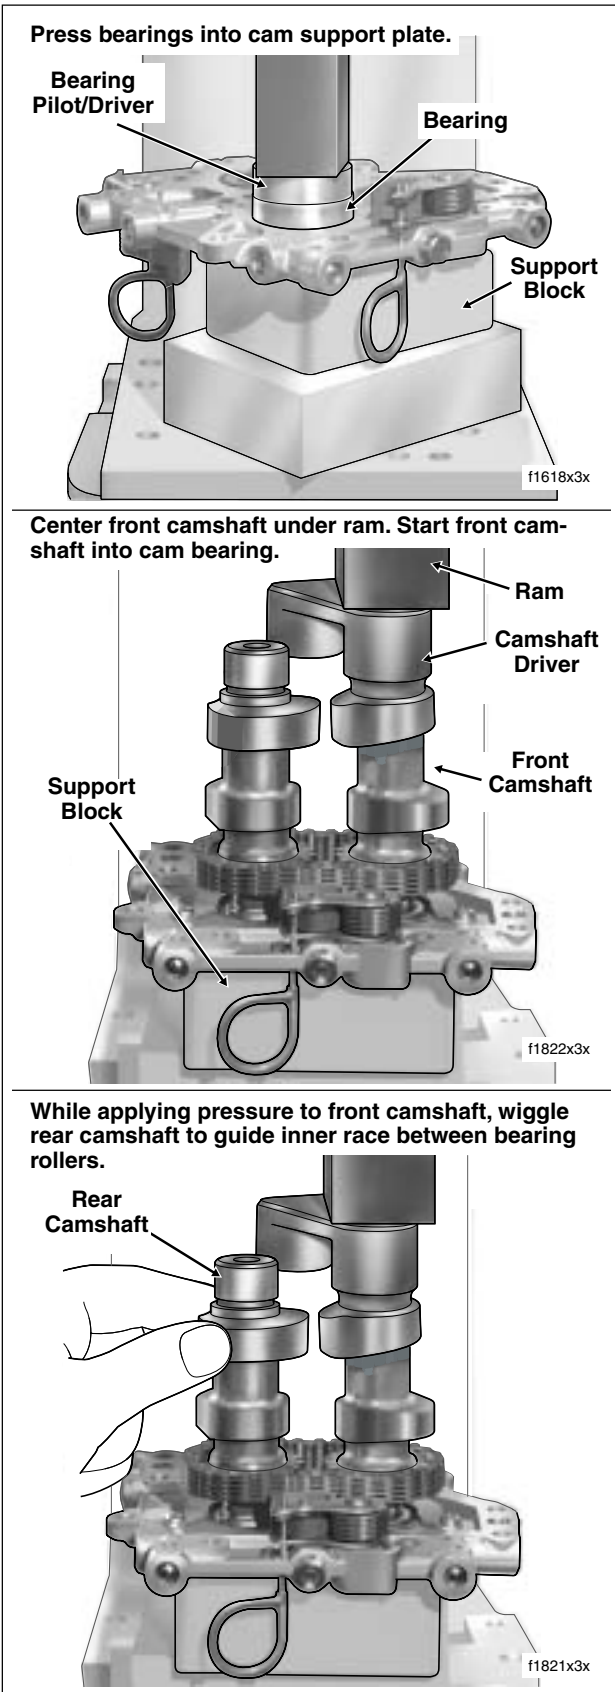

Figure 3-114. Install Cam Bearings/Camshafts
6. Center bearing driver under ram of arbor press. Press on driver until bearing makes firm contact with counterbore in cam support plate. See upper frame of Figure 3-114. Repeat steps to install second bearing.
- Center end of front camshaft under ram and slowly apply pressure to driver just to **start** front camshaft into bearing ID. See center frame of Figure 3-114.
- Slowly apply pressure to driver on front camshaft, while wiggling rear camshaft as necessary to guide inner race between bearing rollers. See lower frame of Figure 3-114.